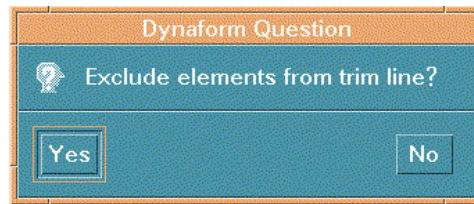

Figure 5.6.5 Dynaform Question
4. Finally, a DYNAFORM Question dialog window appears, see Figure 5.6.5. YES excludes the elements outside the boundary of the trim line; NO excludes elements within the boundary of the trim line.